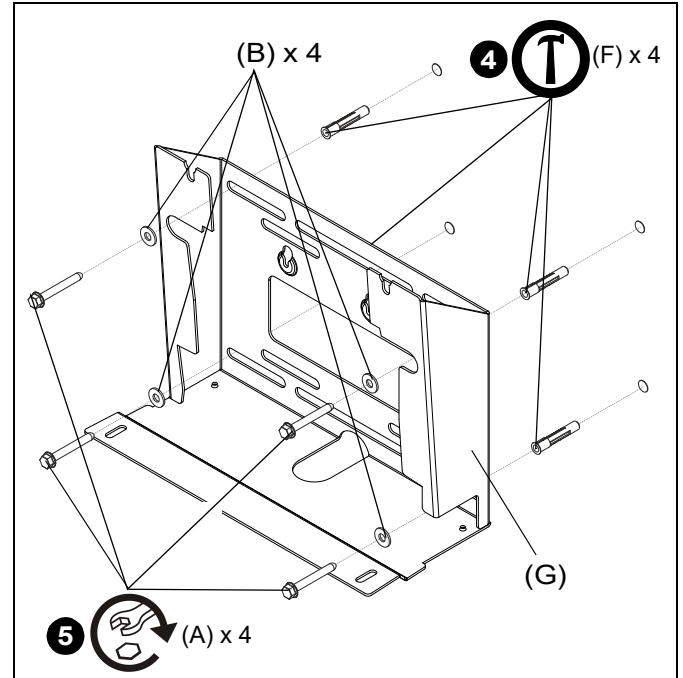

Figure 6
- Install Ux10x60R anchors (F) into drilled holes (See Figure 6)
- Use four 5/16 x 2 1/2" hex head lag screws (A) and 5/16" washers (B) to secure kiosk bracket (G) to wall. (See Figure 6)